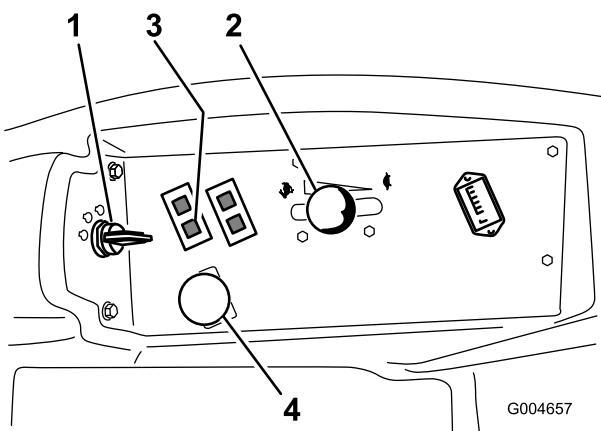

Figure 18
5. Move the throttle lever midway between the Fast and Slow positions (Figure 18).